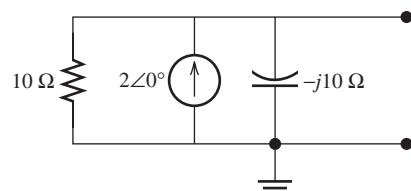

FIGURE P6.51 Circuit for Problem 6.51.
- 6.51** (A) Find the Thévenin equivalent circuits for the circuit shown in Figure P6.51.